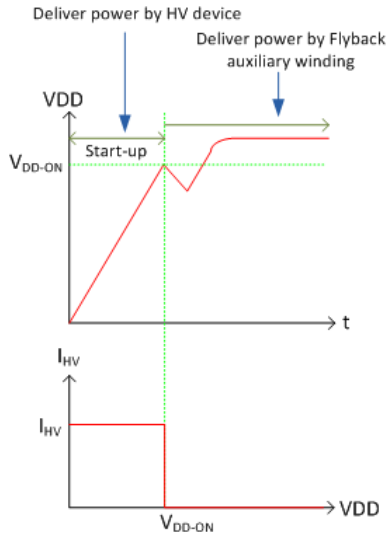

Figure 24. VDD Start-up Waveform
A high voltage device is designed as a current source for the controller during the start-up. It doesn't need any external circuit for start-up. This current source will be turned-off after the AOZ7543 is powered on. The start-up waveform of VDD is shown as Figure 24. The High Voltage (HV) pin also features Brown-in, Brown-out and Bleeding Resistor Removal functions.